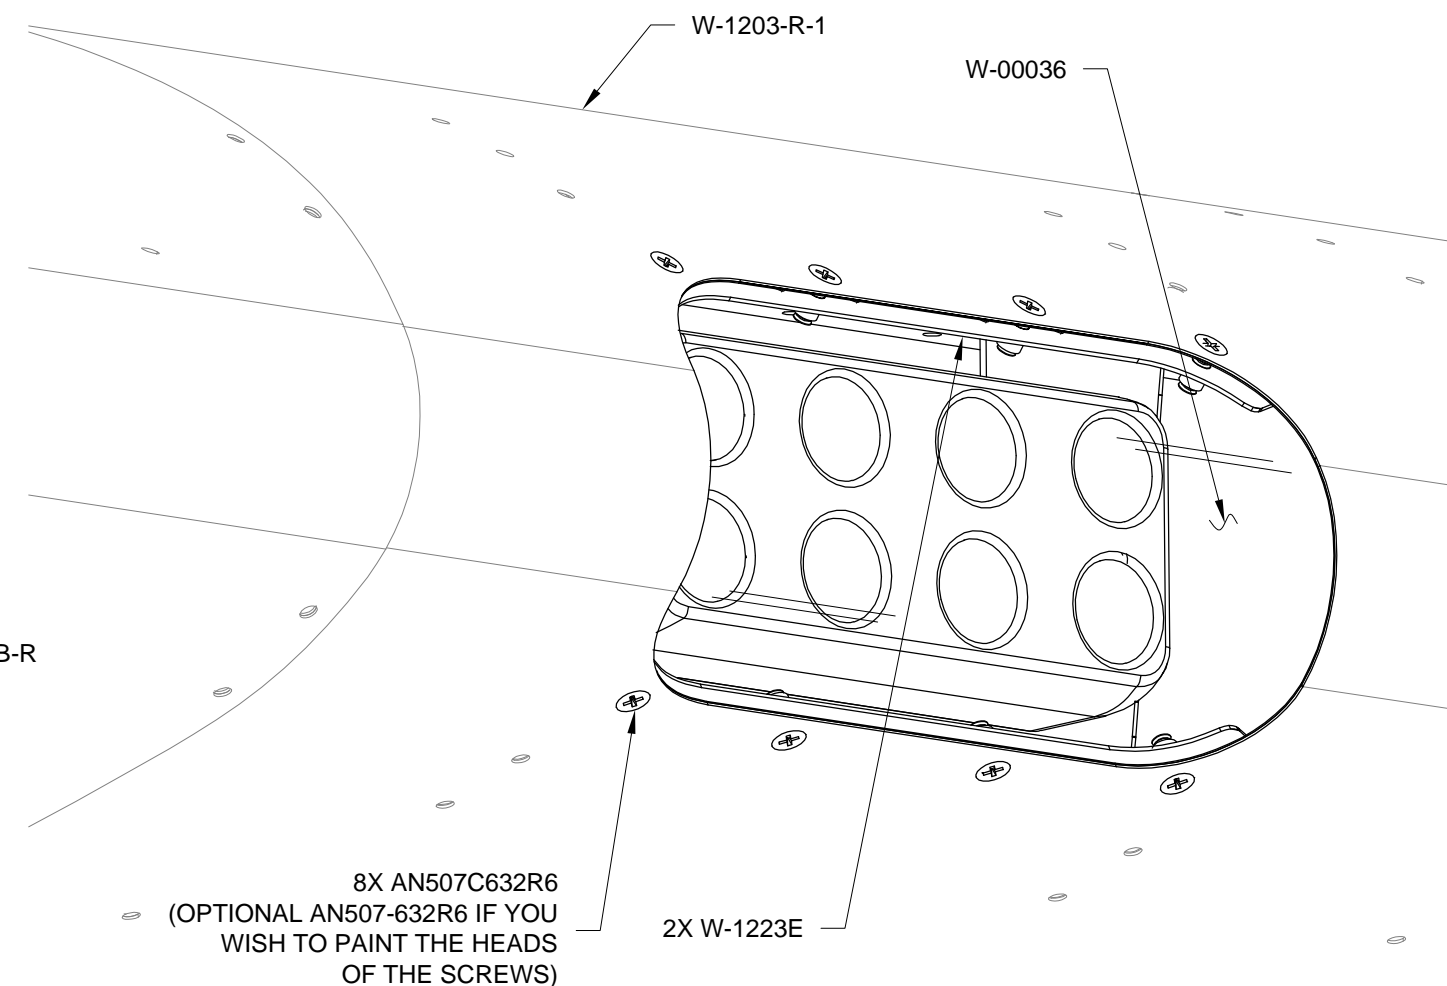

FIGURE 2: INSTALLING THE LENS
Step 8: Slip the W-00036 through the landing light cutout in the W-1203-R-1 and screw it in place as shown in Figure 2.